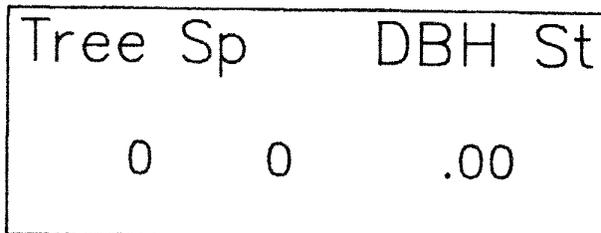

Figure 5.—The opening screen of the Overstory Individual tree sampling mode.
- 3-2 At the Main Plot Menu, select "Ent/ED OI" and press <ENTER>. The screen will briefly display the plot ID and then display the screen for entering overstory individual tree information (Fig. 5).